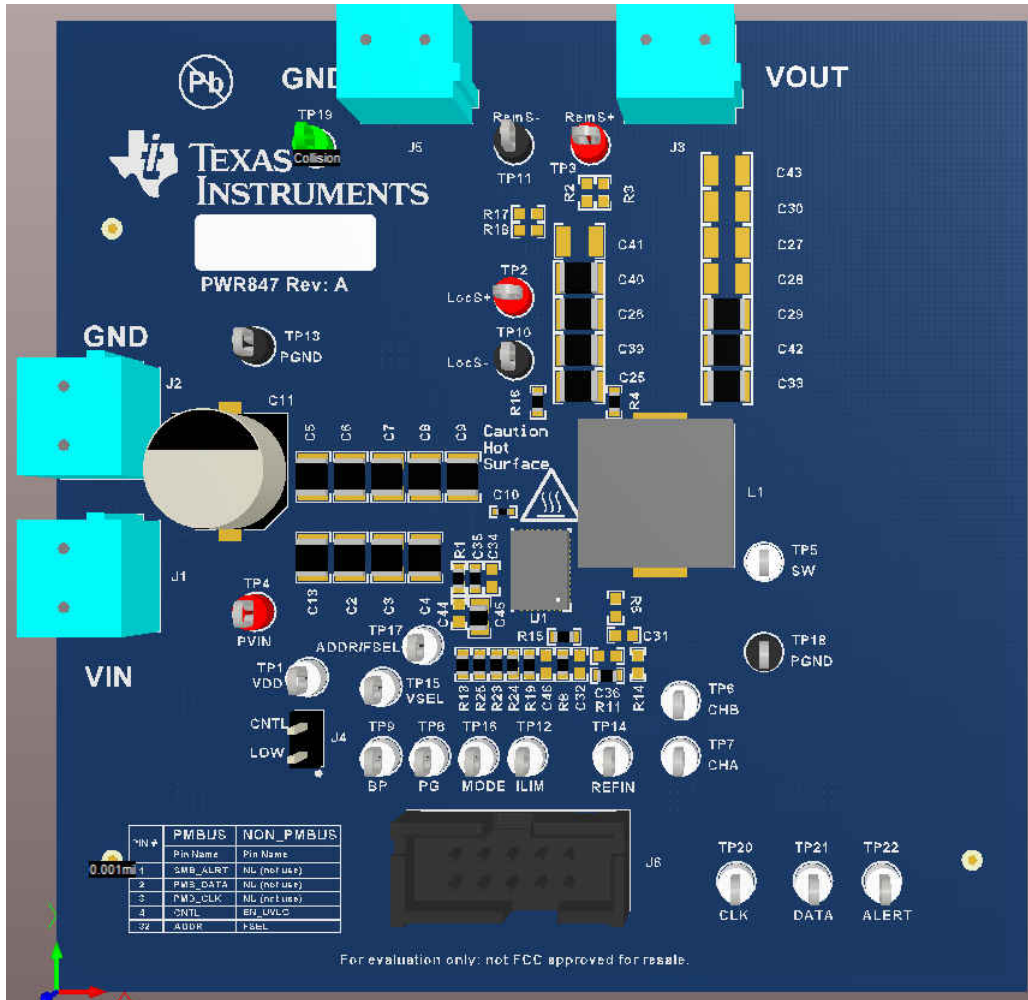
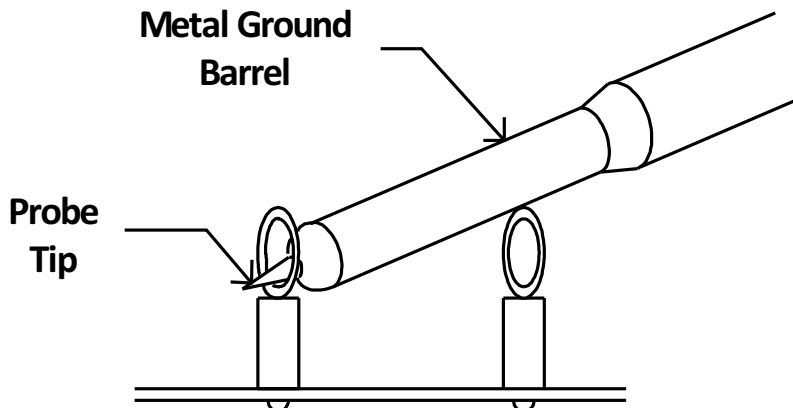

Figure 7-1. PWR-847EVM Overview
Figure 7-2. Tip and Barrel Measurement
Multimeters: It is recommended to use two separate multimeters Figure 7-1. One meter is used to measure V_{IN} and one to measure V_{OUT} .
Output Load: A variable electronic load is recommended for testing Figure 7-1. It must be capable of 25 A at voltages as low as 0.6 V.
Oscilloscope: An oscilloscope is recommended for measuring output noise and ripple. Output ripple must be measured using a tip-and-barrel method or better as shown in Figure 7-2. The scope must be adjusted to 20-MHz bandwidth, AC coupling at 50 mV/division, and must be set to 1- μ s/division.
Figure 7-1 and Figure 7-2 illustrate the PWR-847EVM overview, tip and barrel measurement.
1. Connect VOUT to J3 and VOUT_GND to J5 Figure 7-1.
3. Connect VIN to J1 and VIN_GND to J2 Figure 7-1.